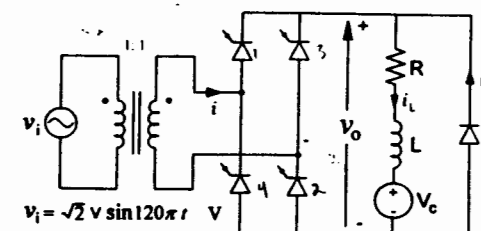

Figure 2: A full-wave controlled rectifier.
2. A single-phase, full-wave, phase-controlled rectifier supplies an inductive load as shown in Figure 2. For  $V = 240$  V,  $L = 11$  mH,  $R = 3 \Omega$ ,  $V_c = 100$  V and  $\alpha = 35^\circ$ ;